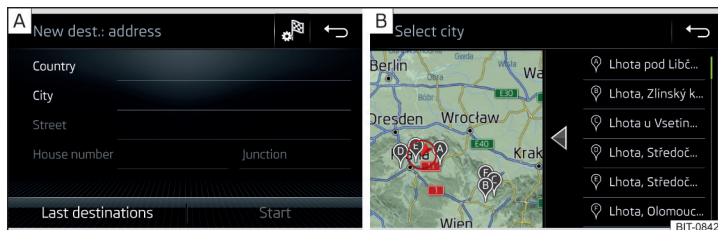

Fig. 229 Enter destination using the address: Main menu / List of visited destinations
- › Enter the destination address and then confirm » Fig. 229 - **A**.
Depending on the number of places visited, a map with a list of visited places can be displayed automatically » Fig. 229 - **B**.